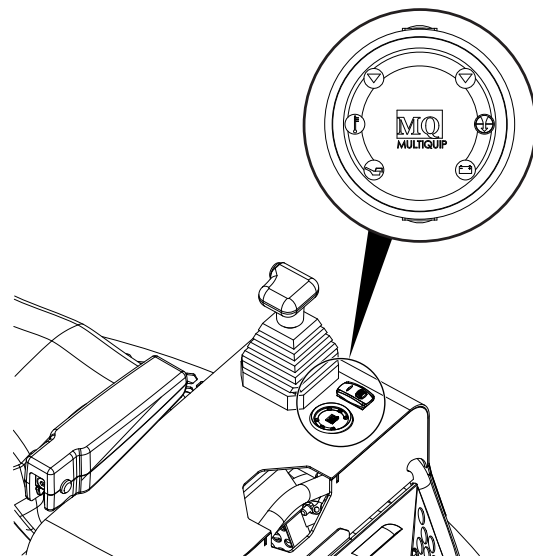

Figure 23. Oil Pressure/Charge Lamps
11. Verify that the oil pressure and charge lamps (Figure 23) are **ON**.